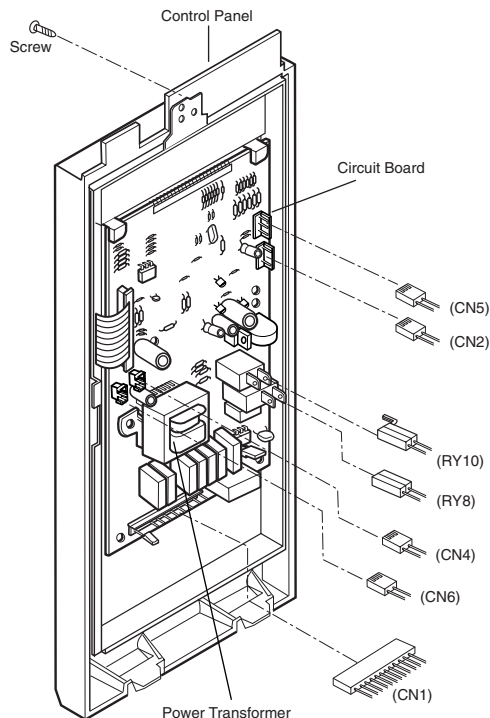

Figure 1
A. REMOVING POWER AND CONTROL CIRCUIT BOARD (Figures 1, 2 and 3)
- (1) Remove a screw securing the control panel assembly to the oven cavity.
- (2) Remove the control panel with pushing it upward.
- (3) Remove the five connectors (CN1, CN2, CN4, CN5) and wire leads (Relay8, Relay10) from the circuit board.